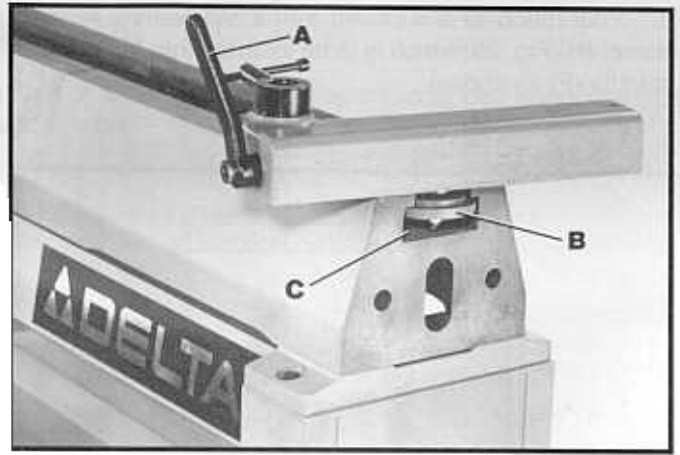

Fig. 21
1. Rotate clamp handle (A) Fig. 21, until clamp (B) is loose and slide clamp (B) into channel (C) of the lathe bed. To lock tool rest base in position on lathe bed, rotate clamp handle (A) to the right. **NOTE:** Adjustment to the clamping action of the tool rest can be made by tightening or loosening the nut located directly underneath clamp (B).